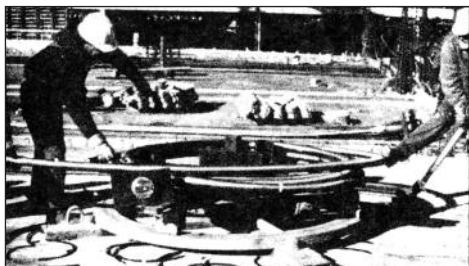

Figure 1.21
- Even though the spring forces may not be as high in wire tendons for use in slabs, always take care when cutting banding. Cut the bands progressively as the tendon is pulled out—never together (Figure 1.21).